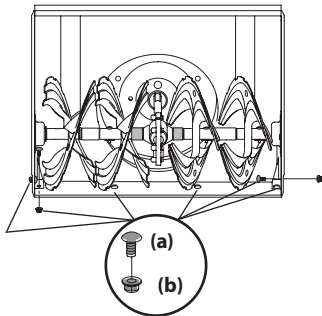
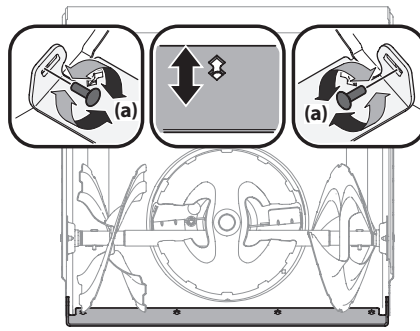

Figure 4-2
Figure 4-3
3. Remove carriage bolts (a) and hex nuts (b) which attach it to auger housing. See Figure 4-2.
4. Reassemble new shave plate, making sure heads of carriage bolts are to the inside of housing. Tighten securely. See Figure 4-2.
NOTE: The shave plate on select units (shown in Figure 4-3) have a wear edge that can be adjusted forward to prolong its life. As the shave plate wears, it can be moved into a second position.
3. Loosen rear skid shoe bolts (a) on both sides of equipment housing and remove carriage bolts and hex nuts which attach shave plate to auger housing. See Figure 4-3 and Figure 4-2.
4. Slide shave plate downward into second position. Reinstall and tighten all bolts securely. See Figure 4-3.